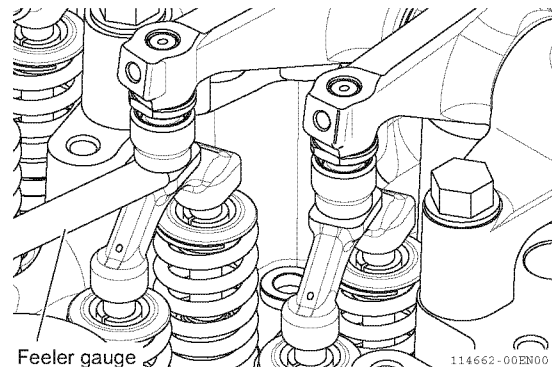

Fig.14-40
- 3 - Insert a feeler gauge between the rocker arm and valve bridge (Fig.14-40) and record the measured valve clearance. Use the data for estimating the wear.